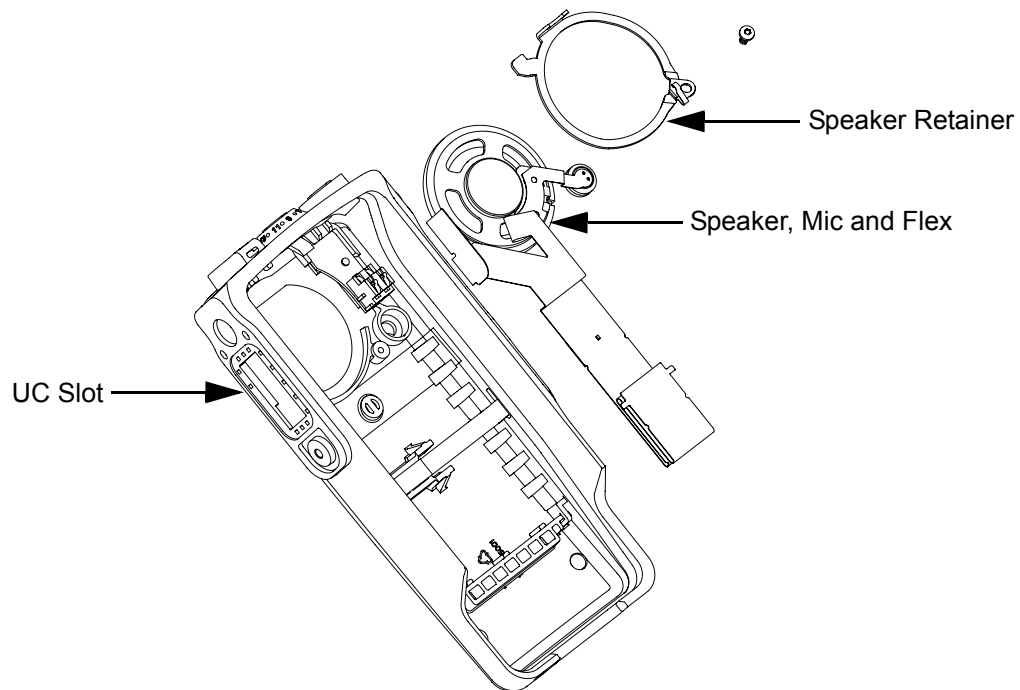

Figure 5-16. Speaker reassembly for Non Keypad
2. Tighten the main board screws in the sequence shown in Figure 5-16.